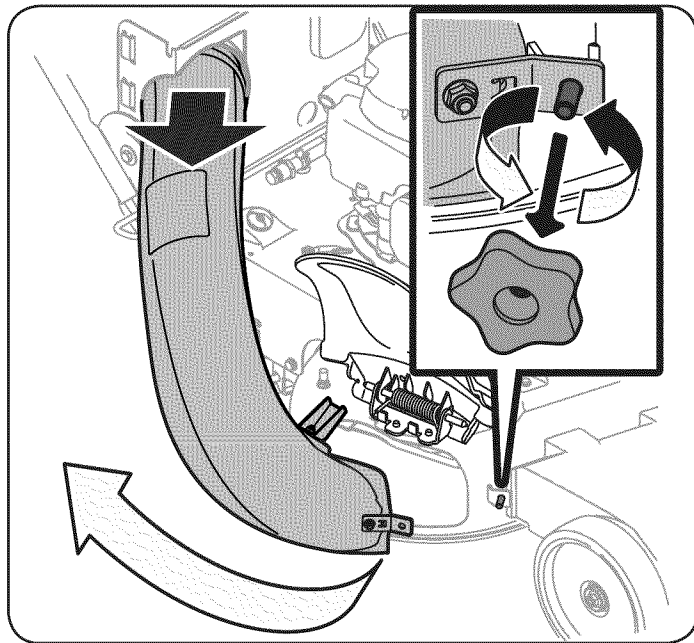

Figure 16
1. Remove the wing knob from the deck stud by turning it counter-clockwise. See inset in Figure 16.
2. Pivot the chute away from the deck, and remove it from the rear discharge door. See Figure 16.